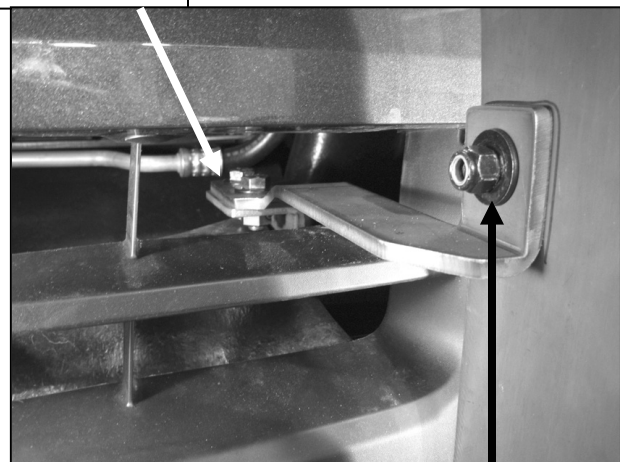

Figure 3
7. Through upper driver side corner on the bumper air inlet, insert driver side Top Bracket and attach to previously installed Support Bracket using the included (2) 10-1.50mm x 25mm Hex Head Bolts and (2) 10mm Flat Washers (Figure 3). Do not tighten at this time.
10. Attach Top Support Brackets to Grille Guard using the included (2) 10-1.50mm x 25mm Button Head Bolts, (2) 10mm Nylock Nuts, and (4) 10mm Flat Washers (Figure 3). Do not tighten at this time.